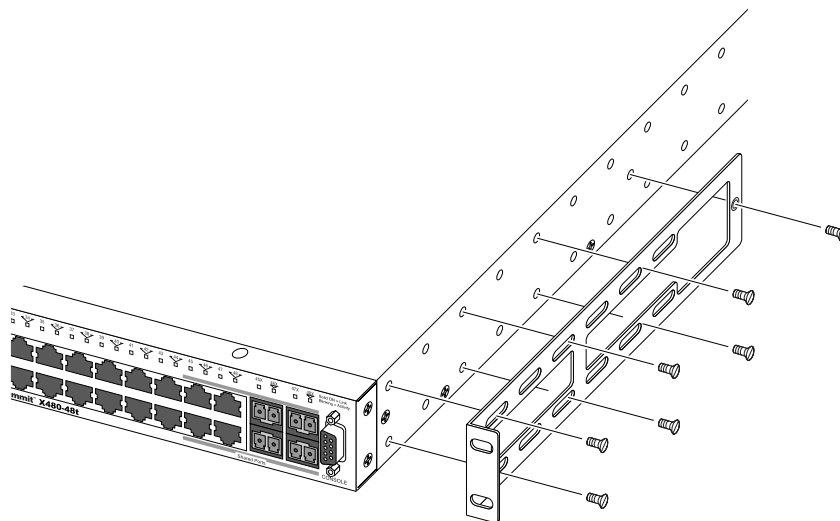

Figure 255: Attaching a Front Mounting Bracket
- 2 Place a front mounting bracket over the mounting holes on one side of the unit, with the flange at the front of the switch (see Figure 255: Attaching a Front Mounting Bracket on page 285).